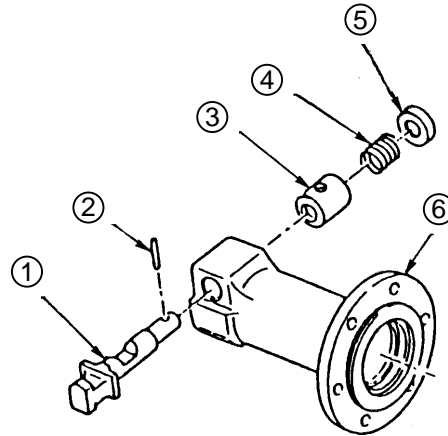

Fig. 11
(6) Reassembly of the Stop Lever ①:
Prior to reassembly, thoroughly coat the grease (Molub Alloy # 777-1, part No. 971042, is recommended) on the sliding portion of the Stop Lever. ①. As illustrated in Fig. 11, place the end surface of the Stop Lever ① on the flange portion of the Front Cover ⑥, and compress the Lever Spring ④ by pressing Damper (B) ⑤ with tow slender minus screw-drivers. Then, align the holes of the Stop Lever ① and Spring Case ③, and insert the Needle Roller ②.